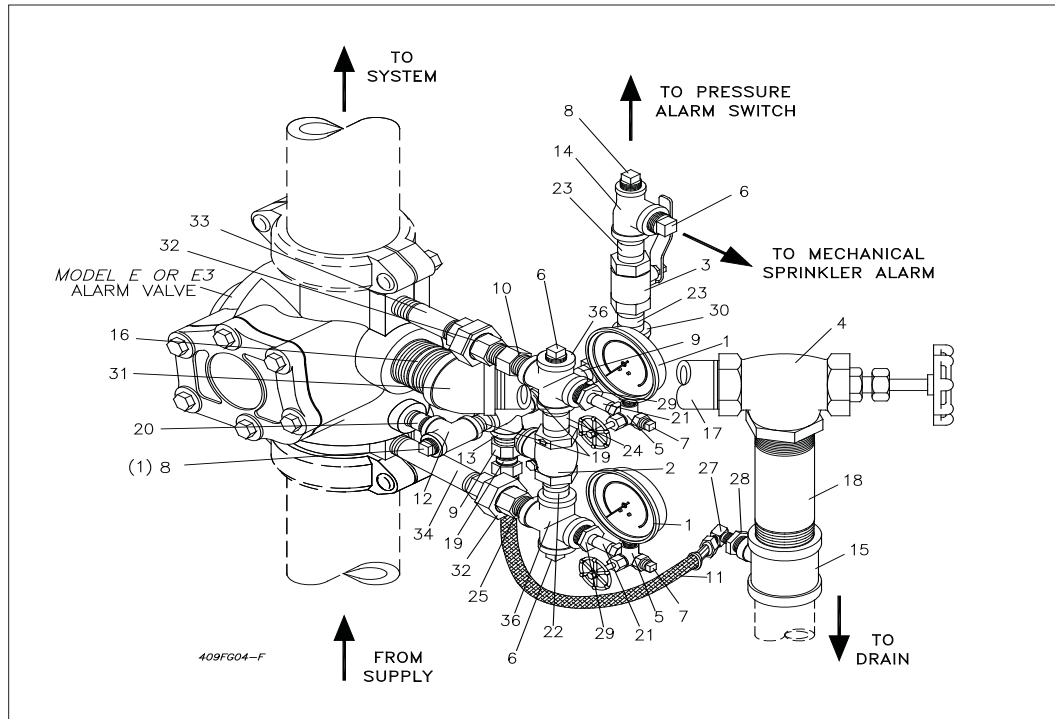

Fig. 4 Constant Pressure Vertical Installation
When the water ceases to flow through the Alarm Valve, the Clapper (4) returns to its seat thus stopping the flow of water to the retard chamber. Drain Orifices (Item 9, Fig. 4 &6) allow the retard chamber and alarm line to empty through the drain line (Item 11, Fig. 4 &6).
Constant Pressure (Figures 4 & 6)
- a. Close the main control valve and relieve pressure between main control valve and clapper of the alarm valve through the ¼" NPT lower gauge valve. Close this valve before removing the ¼" NPT plug, and open after the plug is removed to relieve pressure. If water continues to flow from this valve, the bypass Check Valve (B) should be cleaned, repaired or replaced.
- b. If Bypass Check Valve (B) is leaking, repair after opening Valve (A) to drain and draining the system completely.
- c. Following all repairs, close Valves (A) and then slowly open the main control valve, and supervise it appropriately.
5. If the retard and mechanical sprinkler alarm line does not drain completely, false alarms may result. In this case, check both drain orifices (Item 9, Fig. 4. & 6) to ensure they are not plugged.